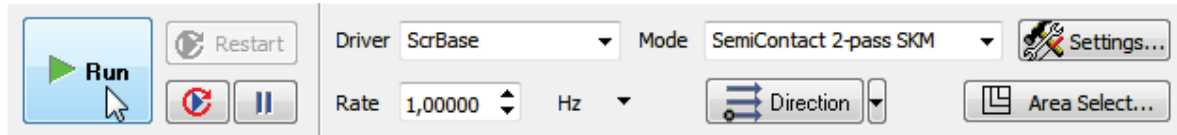

Fig. 9-11
4. To start scanning, click the **Run** button (see Fig. 9-11).